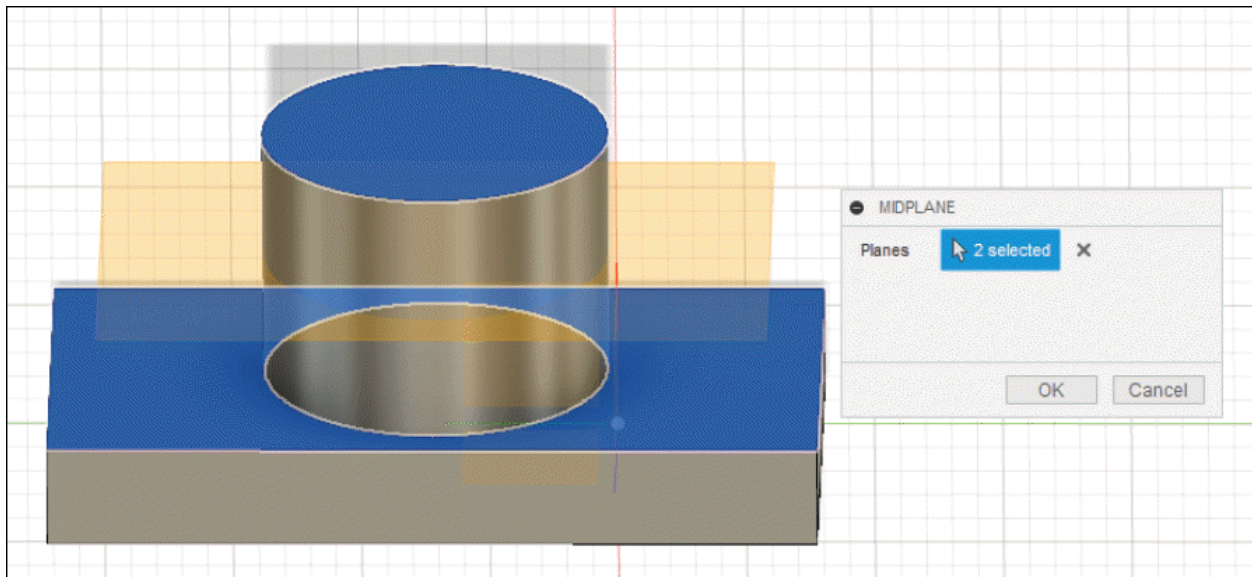

Figure-84. Preview of midplane
- After selecting the second plane or face, preview of plane will be displayed; refer to Figure-84.